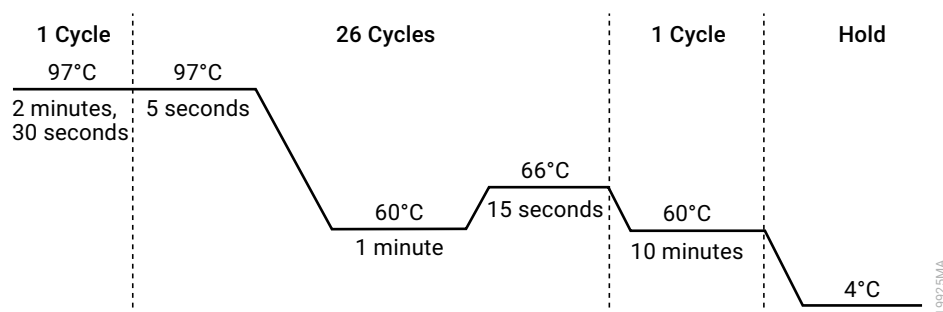

Figure 33. Thermal cycling protocol for the ProFlex® PCR System.
2. Select and run the protocol provided below and in Figure 33. The total cycling time is approximately 65 minutes.